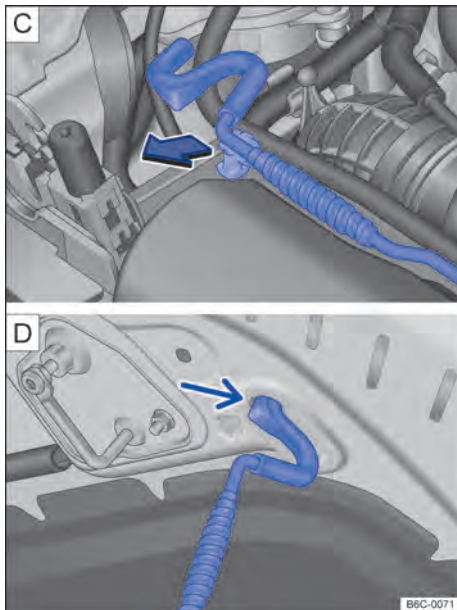

Fig. 180 [C] Bonnet stay. [D] Bonnet secured with the bonnet stay.
- Take the bonnet stay out of the holder as indicated by the arrow → Fig. 180 [C] and insert it into the opening in the bonnet → Fig. 180 [D].
- Take the bonnet stay out of the opening in the bonnet → Fig. 180 [D] and place it back into its resting position holder on the lock carrier → Fig. 180 [C].